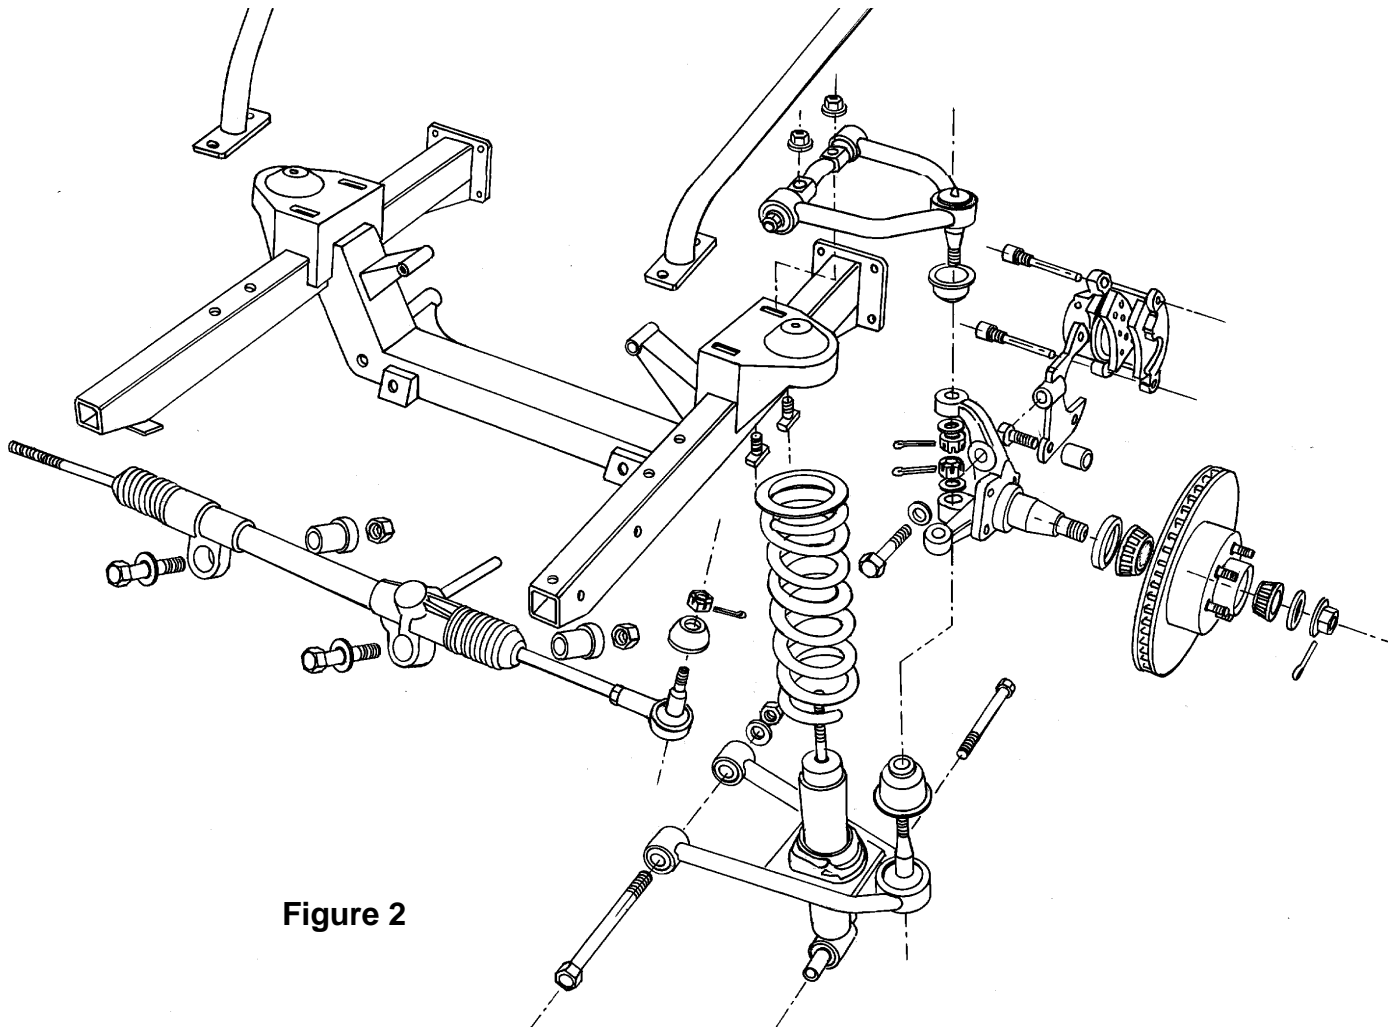

Figure 2
4. Now you can continue with the suspension component installation. See Figure 2. Install the upper and lower control arms using their instruction sheets. Place the coil springs up into the spring pockets and bring the lower arms up to them. Install the shocks by placing the first washer and rubber mount on the shock stud and sliding them up thru the lower arms and install the long bolts thru the lower arms and shocks. Using a floor jack under the lower ball joint (or an external spring compressor), compress the springs by raising the lower arms up into position. The shocks are the top-out device and will hold the springs in place. As the lower arms are raised, attach the upper rubber mount, washer and nut on top of the shocks when they come through the upper shock mount cups. Install the spindles onto the lower ball joints and then install the upper ball joints into them. Now install the rack and pinion assembly using the two 5/8" bolts, washers and lock nuts supplied. Install the tie rod ends onto the rack and into the spindle arms. Estimate the alignment at this point. Install the rotors and calipers next. It is a good time to install your steering column and headers now, as it is easier to work on the steering column connection to the rack & pinion before the sheet metal is in place. (*HEIDTS* has available a Steering Column Kit which has everything you need to complete this connection).